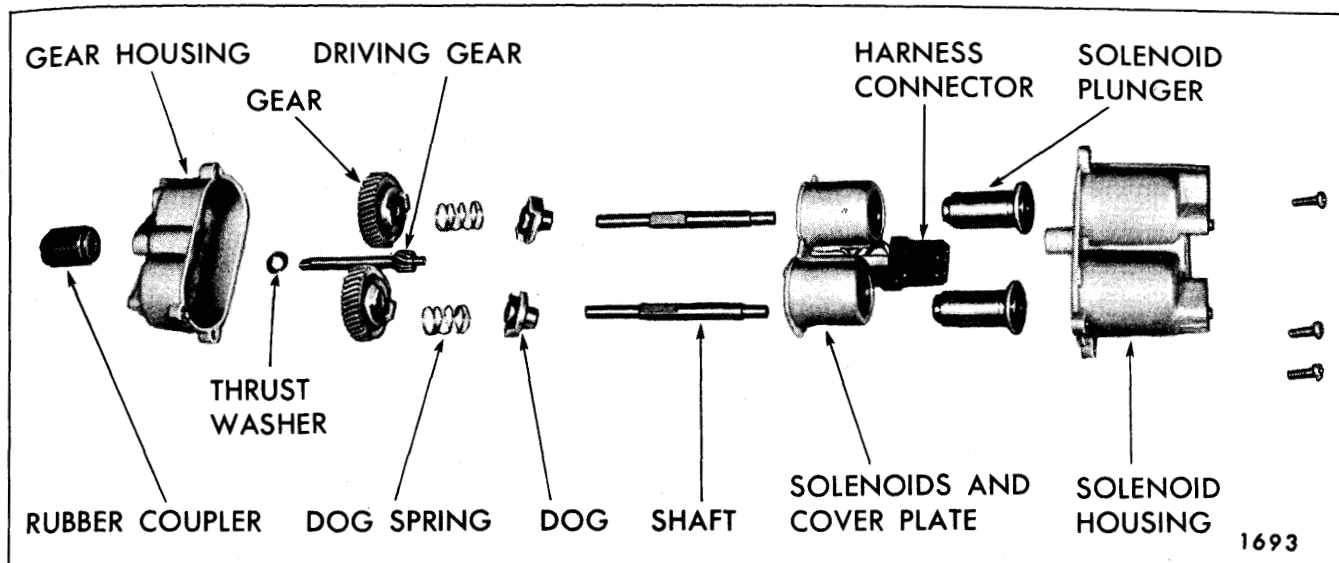

Fig. 10-15—Four-Way Seat Adjuster Transmission
2. Remove screws securing gear and solenoid housings together; then, carefully separate housings and remove component parts of transmission assembly (Fig. 10-15).